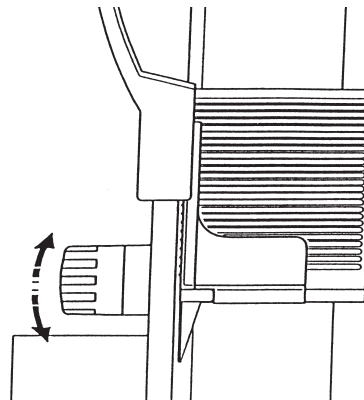

Figure 3
6. Rotate Thickness Adjustment Knob to desired slicing width (Figure 3).